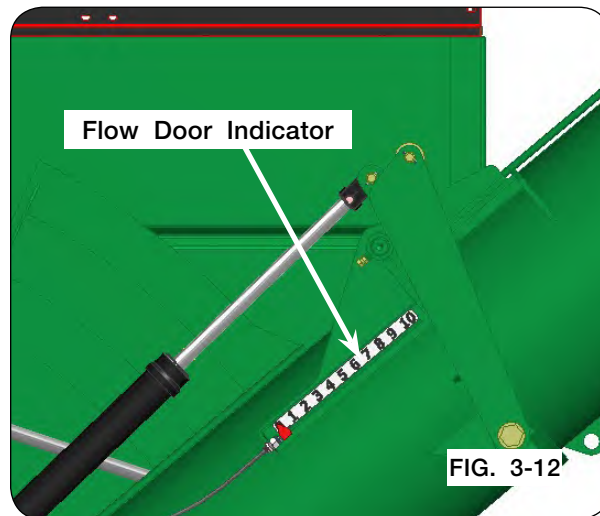

FIG. 3-12
4. Open flow control door to desired unloading rate. Numbers on the auger tube provide a point of reference for operator convenience. (FIG. 3-12)